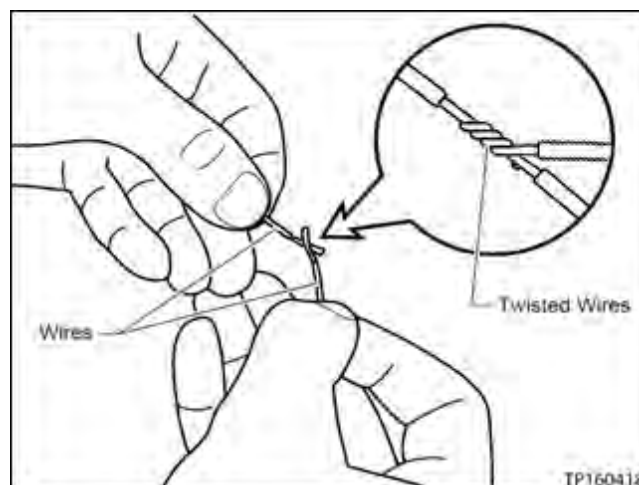

Figure 39
44. Now twist the third grey wire from Joint connector – E01 (Figure 39) that was cut through in step 32 to form a three way connection.